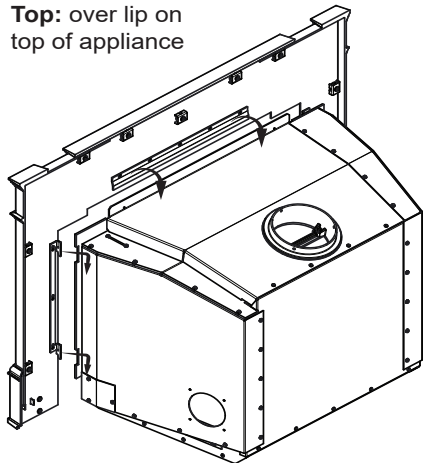

Figure 22.4
10. Slide surround and trim over the top of the insert into place matching the mounting tabs on the metal sides with the slots on the insert (**Figure 22.4**).
11. Align the 2 screws in the top metal surround piece to the 2 alignment holes on the appliance top. Secure in place (**Figure 22.4**).